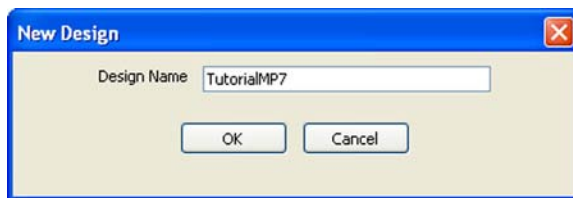

Figure 5-1. New Design Window in CoreConsole
2. From the **File** menu, select **New**. The New Design window displays, as shown in Figure 5-1.